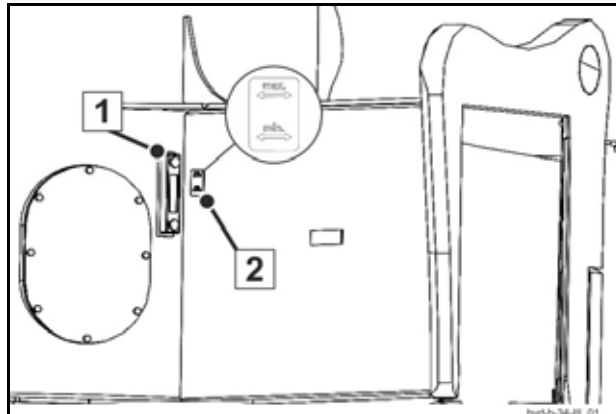

Fig. 47 Level indicator for hydraulic tank (similar to illustration)
- Check the oil level of the hydraulic oil box on the inspection glass (1) (Fig. 47 Level indicator for hydraulic tank (similar to illustration)).
When the oil is cold, the oil level indicator of the hydraulic oil tank (inspection glass 2 (Fig. 47 Level indicator for hydraulic tank (similar to illustration))) must be located between the "Min" and "Max" marking.
Caption (Fig. 47)